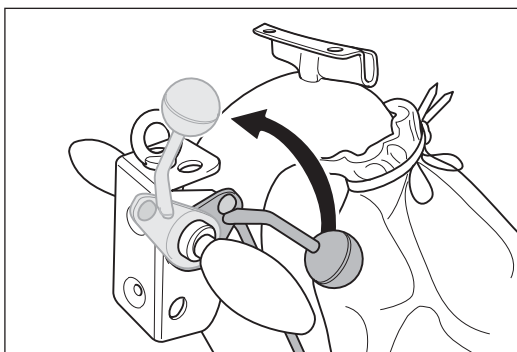

Fig. 23 Lift the sanding drum off the floor by turning the lowering lever at the handle upwards.
- 1 Before switch off the machine lift the sanding drum off the floor by turning the lowering lever at the handle upwards (Fig. 23).